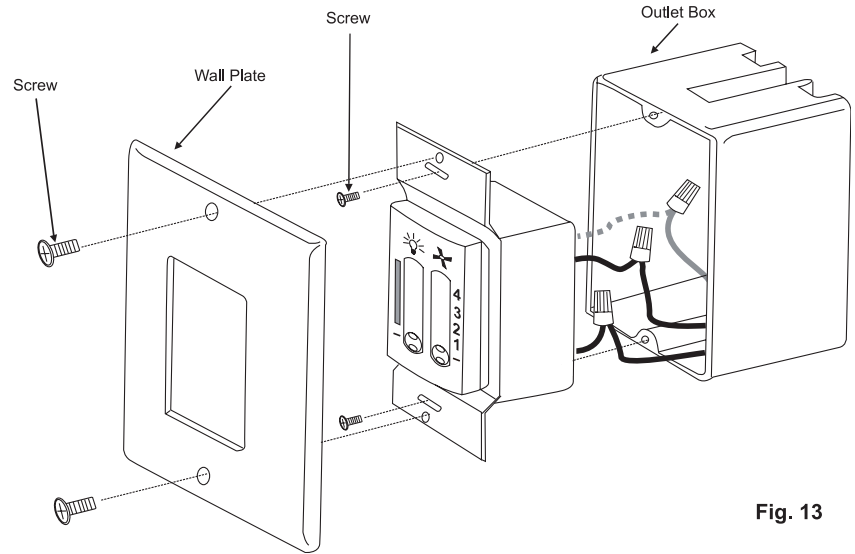

Fig. 13
Step 1. (Fig. 13) Carefully tuck the wire connections inside the outlet box. Secure the wall control with the two screws provided.